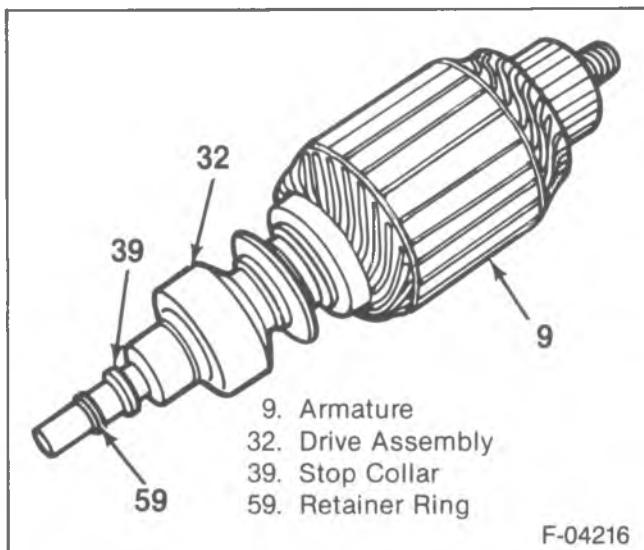

Figure 26—Retaining Ring on Armature
1. Drive assembly (32) from the armature shaft (9) as follows:
- Remove the pinion stop washer (34) or thrust collar (39) from the armature shaft.
- Drive the stop collar (39) away from the pinion stop retainer ring (37) by sliding a metal cylinder onto the armature shaft and with a hammer, striking the metal cylinder against the stop collar (figures 26 and 27).
2. Bolts (35) attaching the solenoid (3) to the drive housing.
3. Bolt and nut (44) and washer on the 10MT or the retainer ring (37) and shaft (43) on the 5MT and 27MT attaching the shift lever to the drive housing.
4. Shift lever (1) and the attached solenoid plunger (2) from the drive housing.
5. Roll pin (40) in order to separate the shift lever from the solenoid plunger (2).